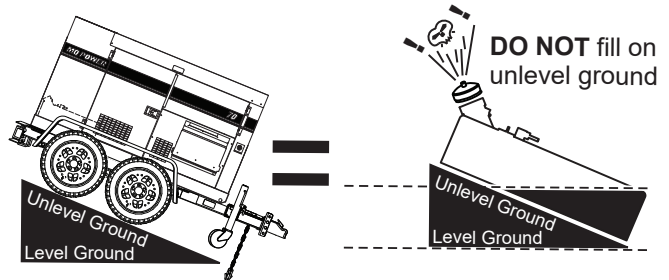

Figure 34. Only Fill On Level Ground
1. **Level Tanks** — Make sure fuel cells are level with the ground. Failure to do so will cause fuel to spill from the tank before reaching full capacity (Figure 34).